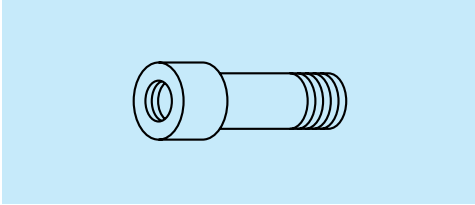

Fig. II-5-6 Connector
- A connector (Fig. II-5-6) is necessary to install a grease fitting to the end cap after a double seal or protector are assembled. Specify a double seal set with a connector when ordering.